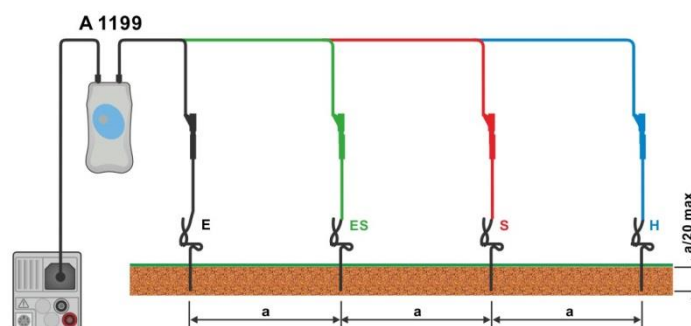

Figure 7.60: Specific earth resistance measurement
- Connect test leads to earth probes, see **Figure 7.60**.